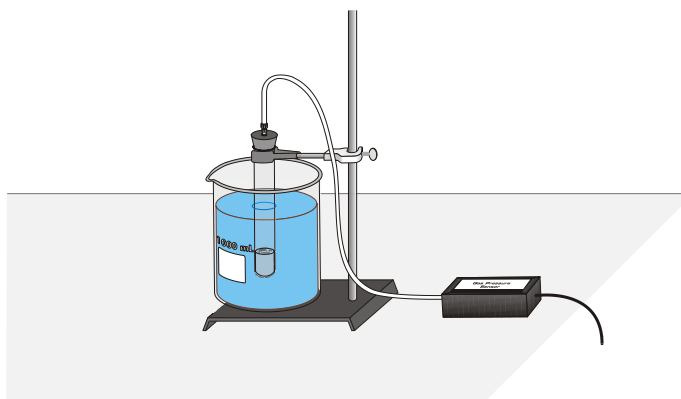

Figure 3 (Masterman, 2003)
7. Insert the single-holed rubber stopper into the test tube. Firmly twist the stopper for an airtight fit and then secure the test tube with a utility clamp to the ring-stand. Then connect the free end of the plastic tubing to the connector in the rubber stopper, shown in Figure 3.